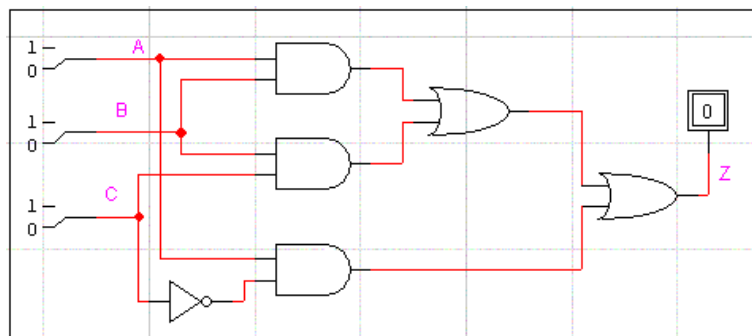

Fig. 10
- The Binary Probe should now be connected to the output of the final OR gate and the wire should be labeled Z. See Fig. 10. Notice that the output Z showed up in the *Timing Window*.